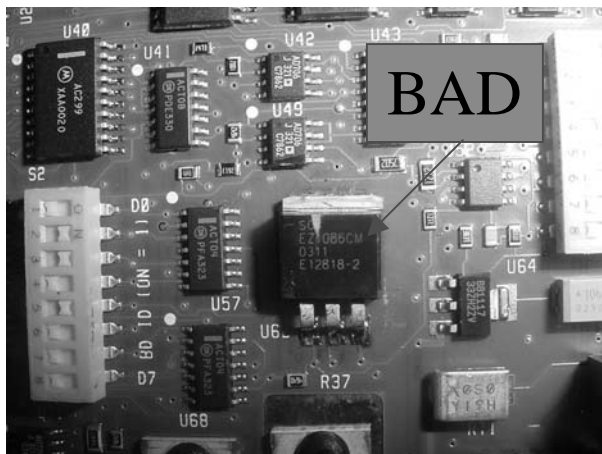

Figure 1 – Semtech EZ1086, Wrong Part
ADDITIONAL INFORMATION: Inspect Service Inventory for correct part (see Figure 1 and 2). Scrap assy with wrong part (Fig 1).
Some 54754-65501 Digital Boards were loaded with the wrong voltage regulator, Semtech EZ1086 (see Fig 1 below) and under certain power-up conditions, it may cause a module Vertical failure.
**Note:** Digital Board failures which do not have the wrong part loaded (Figure 1) or do not have this failure mechanism are NOT covered by this Service Note.